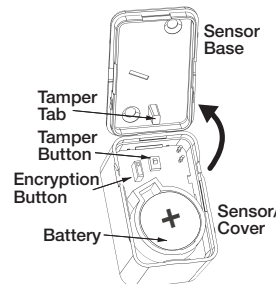

Figure 6. Snap Sensor/Cover onto Sensor Base
2. Locate the dip switch (see Figure 6) and note the switch setting: **ON** indicates *encrypted*, and **1** is *non-encrypted* mode. Move the switch position to **ON** for encrypted mode.